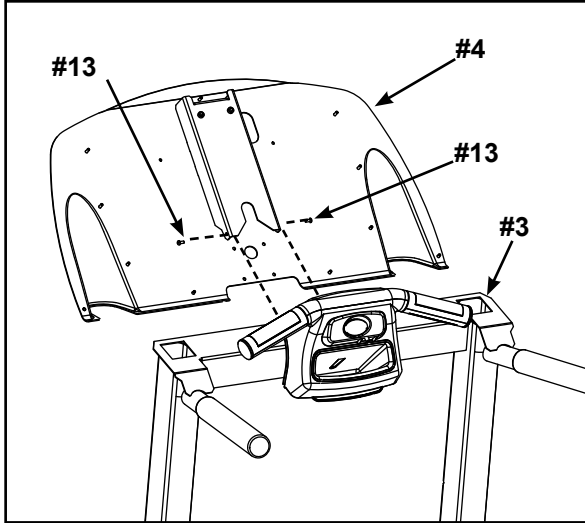

Figure 5
- B. Place the console back (#4) in the correct position on the upright assembly (#3). See Figure 5.
- C. Using a Philips head screwdriver install two screws 8-32 x .38" (#13) to hold the console back (#4) in place. Do not fully tighten at this time. See Figure 5.